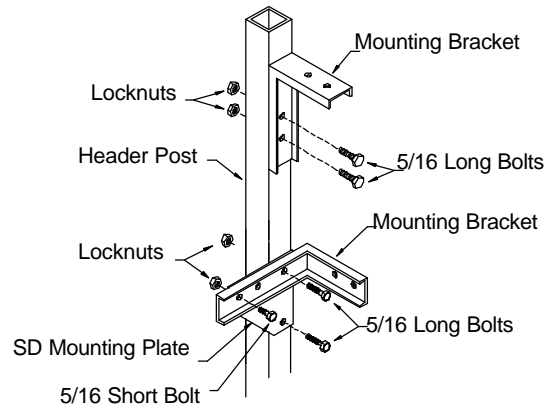

FIGURE 10
7. Mount one header bracket to the square tubing using the pre-drilled holes. (Figure 10)